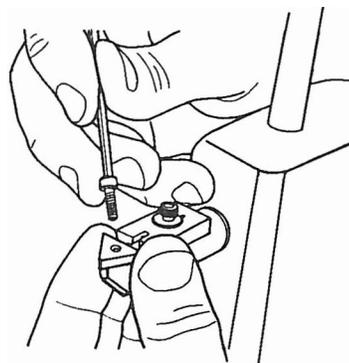

Fig. A-11
12. Place the triangle carbide cutter (57), with the bevel down, on against the cutter guide. Use a 7/64" Allen wrench and a 3/8" cap screw to attach the cutter to the support, as illustrated in Fig. A-11.